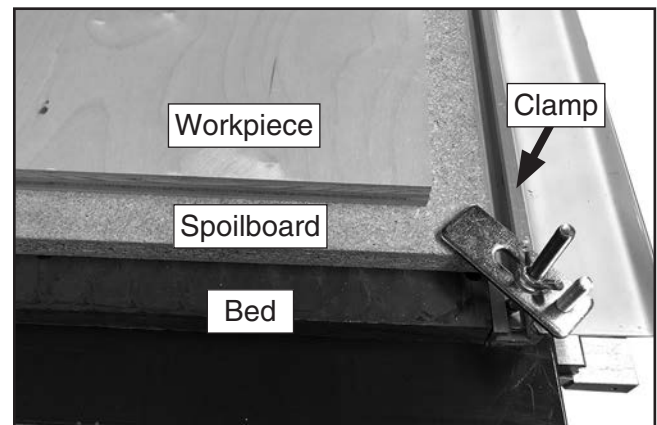

Figure 22. Spoilboard clamped to router bed.
1. Clamp surfaced spoilboard to machine bed using included hold-down clamps (see **Figure 22**).